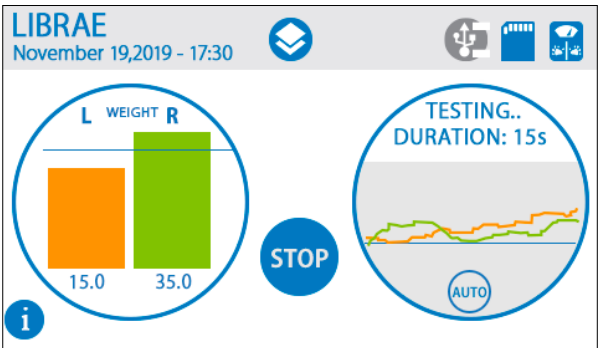

Figure 4.6.6 - Experiment is running
6. Experiment runs until time-out (Figure 4.6.6)